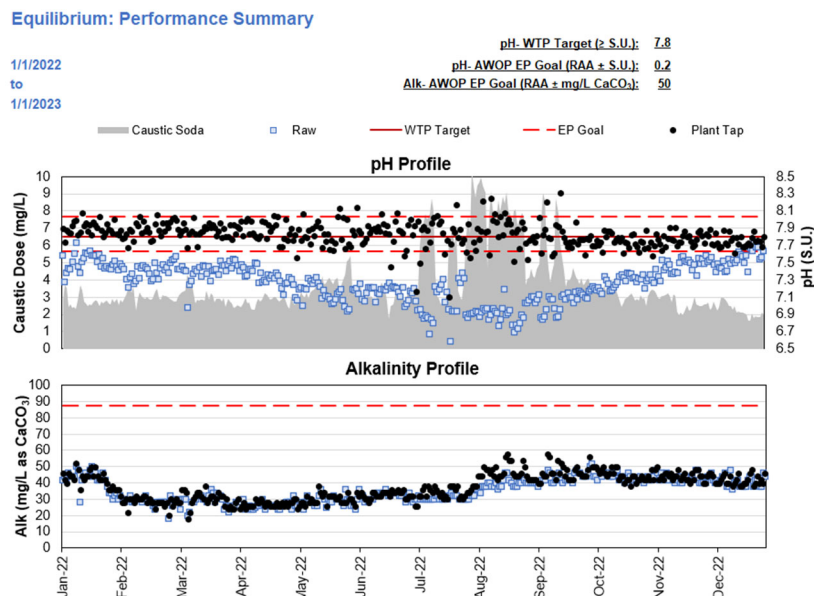

Figure 1: Example Equilibrium Performance Summary in OAS
4. The equilibrium performance summary in Figure 1 shows that caustic soda dose was adjusted throughout the year to maintain a consistent pH during the seasonal decrease in raw water pH. The annual average of EP pH measurements achieved the system-defined target (≥ 7.8 S.U.) and met the proposed EP goal (RAA ± 0.20 S.U.) in 89% of measurements during this time. Although this system does not add a chemical to control alkalinity, assessing the variability of EP alkalinity relative to the proposed goal (RAA ± 50 mg/L as CaCO_3) can provide additional insight (source water quality changes and unintended treatment impacts).